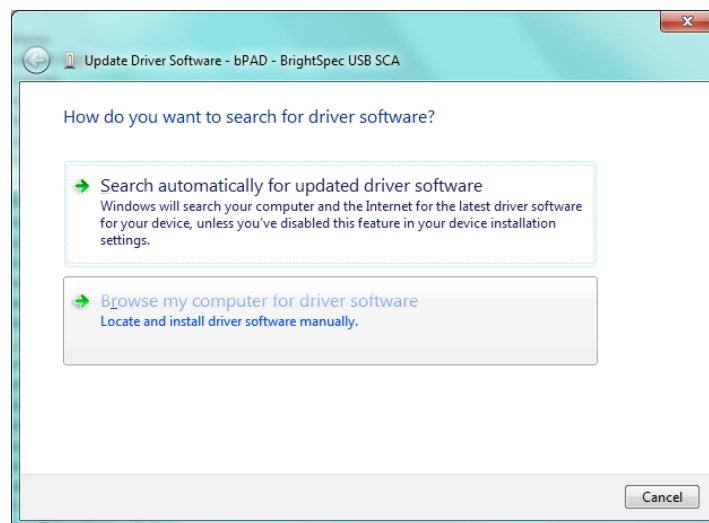

Fig. 1 – Windows’ “Found New Hardware” wizard
2. Windows will start the “Found New Hardware Wizard” (Fig. 1):